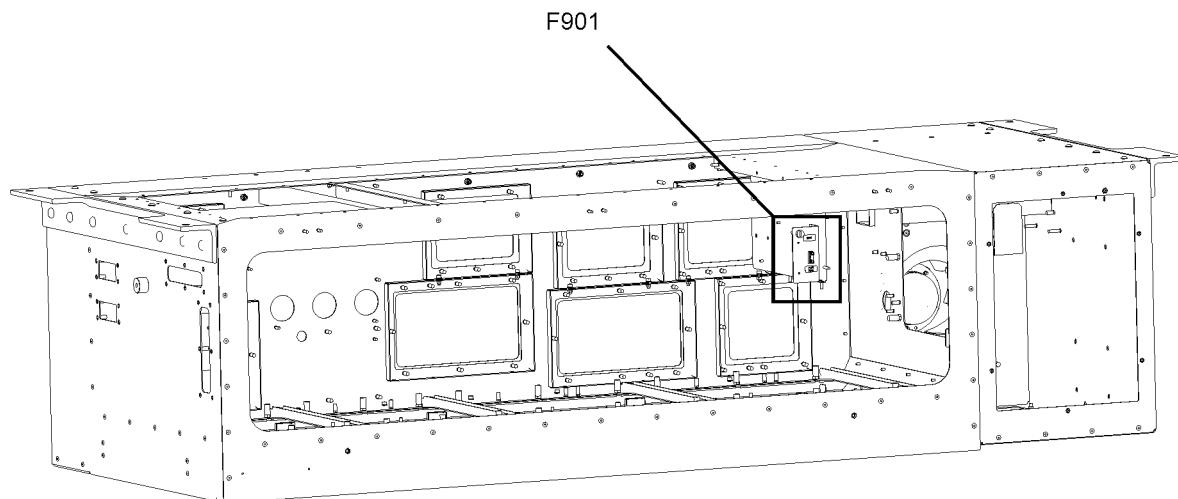

Figure 5-69: Location of F901
3. Locate F901. See Figure 5-69 for the location of the F901.